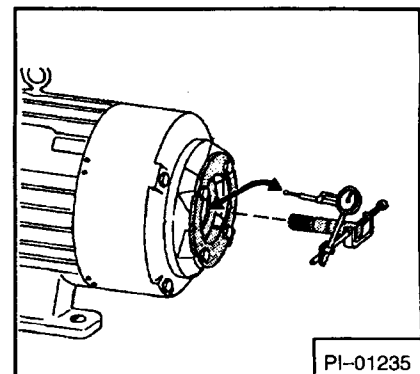

Fig. 4-54 Using Dial Indicator
13. Fasten a dial indicator to shaft so that indicator arm slides on inner circumference of holding plate for pump (Fig. 4-54).